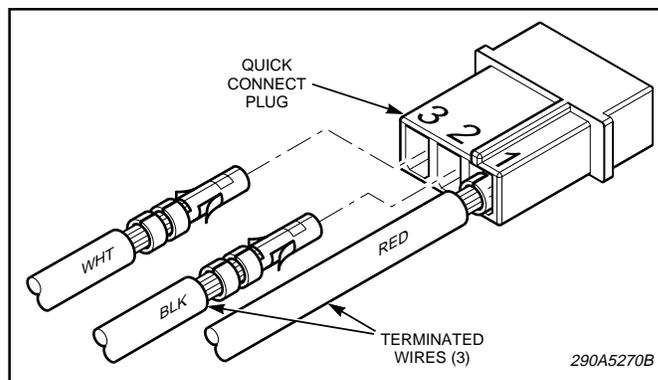

Figure 1.
- a. See figure 1. Ensure that the red, white, and black wires are inserted into the proper connector position. Insert the terminated wires into the quick connect housing and push until they snap into place.